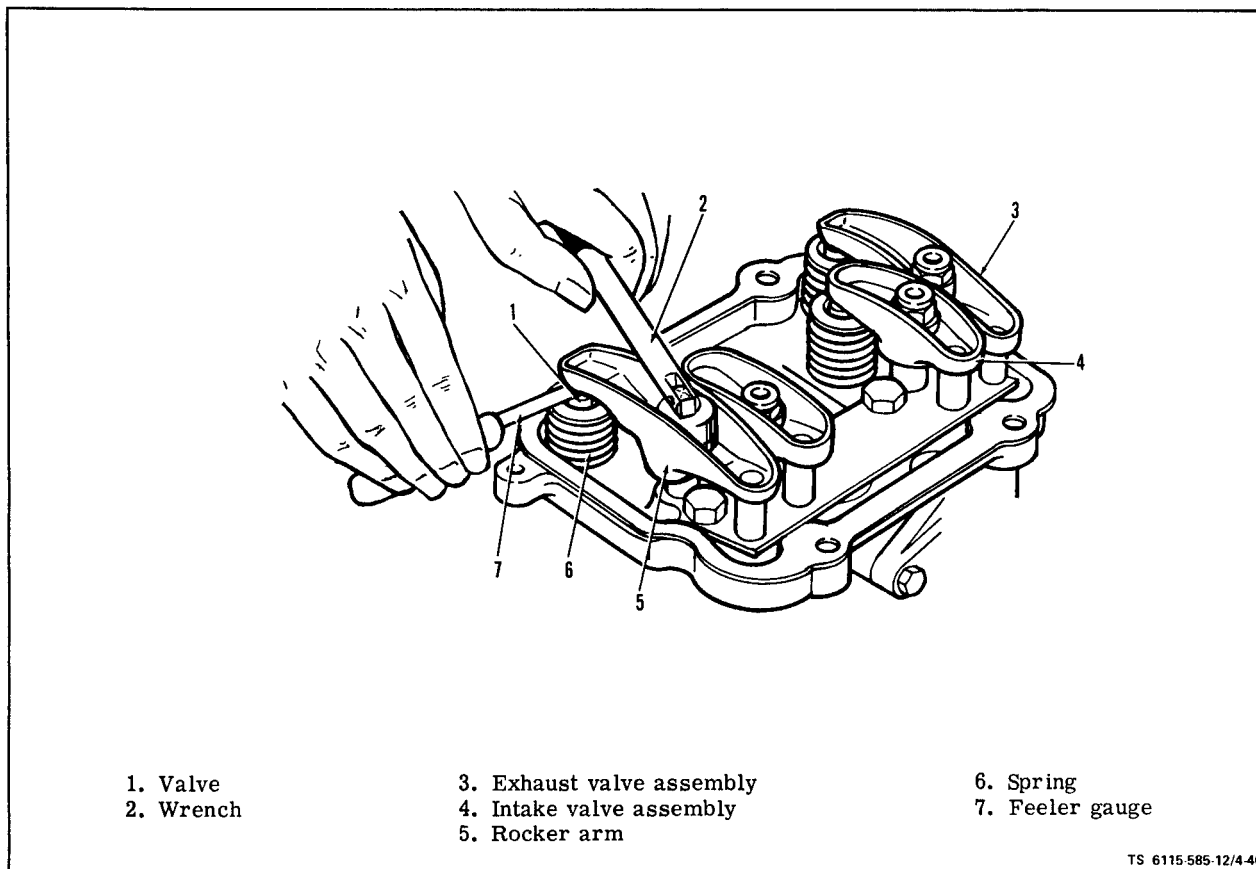

Figure 4-40. Checking and Adjusting Rocker Arm to Valve Clearance
a. Inspect (see figure 4-40). Inspect rocker arms for physical damage or excessive wear.
(1) Using 5/8" socket wrench and extension, turn the blower wheel clockwise until No. 1 cylinder is on its compression stroke, which follows the closing of its intake valve. See figure 4-40 for identification of intake valve assembly.
(2) Continue clockwise rotation until the letter "A" appears in the timing port on the side of the
(3) By using a feeler gauge, check the clearance between the rocker arm and the valve stem cap. See figure 4-40. Increase or reduce the clearance until the proper gap is established, adjusting with the lock-nut which secures the rocker arm to the cylinder head. Correct valve clearance is 0.010 for intake valve, 0.007 for exhaust valve.
(4) To adjust the valve clearance for No. 2 cylinder, turn the blower wheel clockwise 180° until the letter "B" appears in the timing port and adjust valves as given in step 3.
(5) Turn blower wheel an additional 180° until "A" again appears in the timing port and adjust valves for No. 4 cylinder as given in step 3.
(6) Turn blower wheel an additional 180° until "B" again appears in the timing port and adjust valves for No. 3 cylinder as given in step 3.
(7) Install rocker cover and tighten screws 7 to 8 ft-lb.